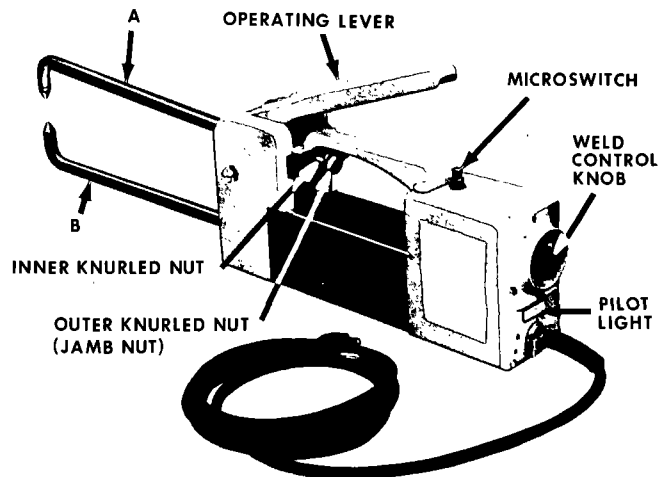

FIGURE 2 - SPOT WELDING MACHINE
- A. Refer to Figure 2 for tong installation. The bottom tong (B) must be inserted into the bottom holder as far as it will go. Then tighten the socket head cap screw on the bottom tong clamp. There is only one socket head cap screw holding each tong in position.
- B. Insert the top tong (A) into the top tong holder or clamp until the tip aligns with the bottom tip. Then tighten the socket head cap screw.
- A. Place metals to be welded, firmly together before placing between the tongs (A & B). (See Figure 2) Do not use the Spot Welding Machine tongs to bring the two pieces of metal together. Never apply weld current to the tong tips without having metal between them.